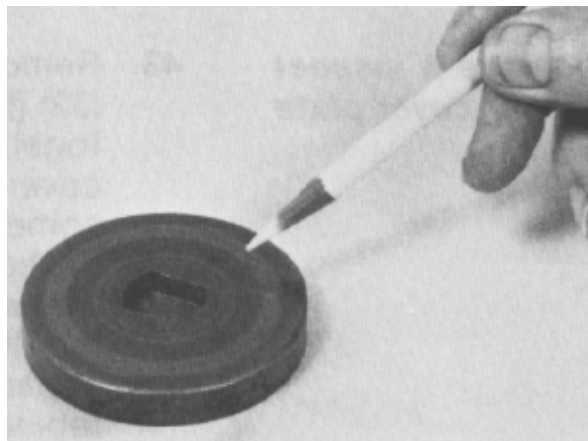

Figure 71
39. Inspect the thrust bearing side of the drive plate (Fig. 71) for brinelling (dents) or spalling (flaking). The flat sides of the input shaft engagement hole should not be grooved or worn. If any of these conditions in steps 38 and 39 are present, the drive plate must be replaced.